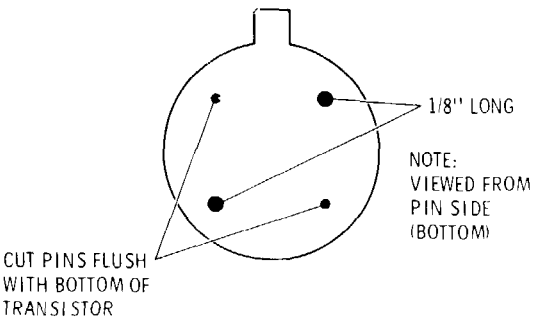

Figure 8-82. RF Oscillator Transistor Preparation
- 1. Unscrew transistor cap (32).
- 2. Remove transistor (55).
- 3. Clip new transistor leads as shown in Figure 8-82.